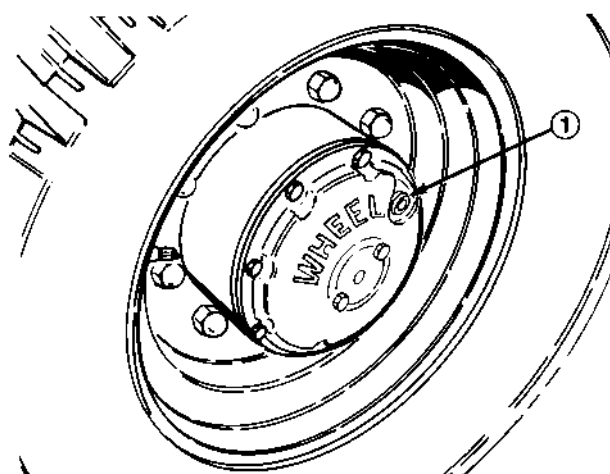

Figure 50
1. With the machine on level surface, position the wheel so the check/drain plug is at either the three or nine o'clock position (Fig. 50).
3. When the oil has drained, position the wheel so the plug hole is at the three or nine o'clock position (Fig. 50).